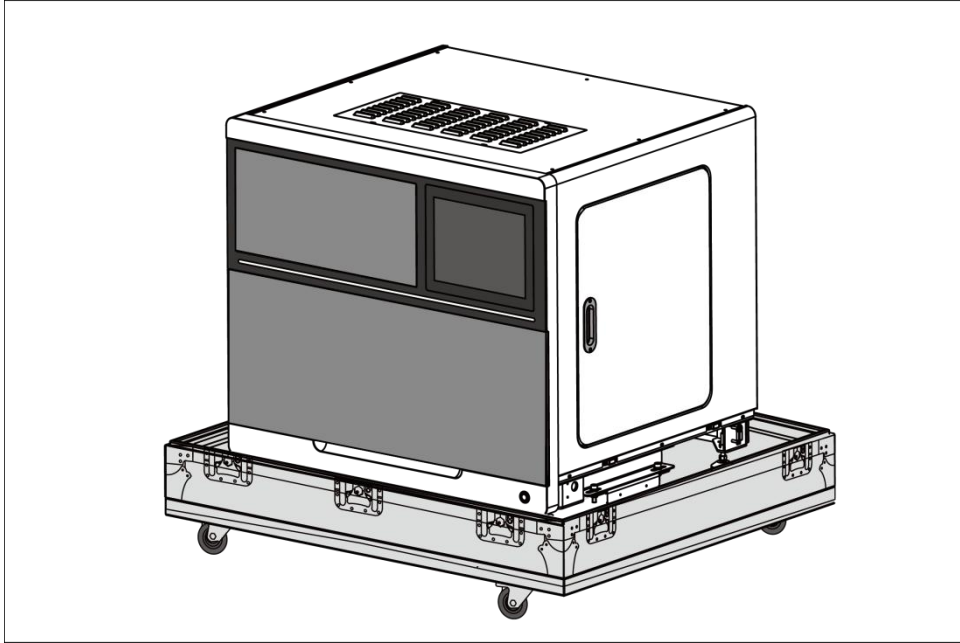

Figure 2-2a. Remove Aviation Case Roof Plate
- 1st Step:** Please release the bottom circle buckles of the aviation case and then remove roof plate with hands holding the handles, as shown in figure 2-2a.